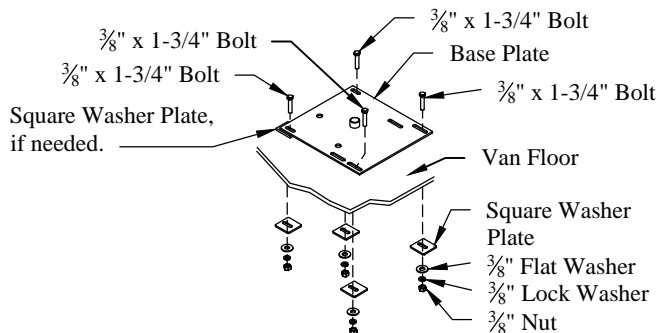

Figure 4: Base plate hardware.
- 9. Bolt** the base plate to the vehicle floor using the hardware provided (Figure 4). The left two mounting bolts will be close to the spring shackles and rear shock, but will be accessible.